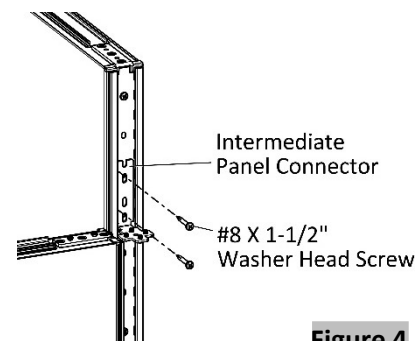

Figure 4
6. Drive two #8 X 1-1/2" Washer Head Screws through the holes in intermediate panel connector into the taller panel, (Figure 4).